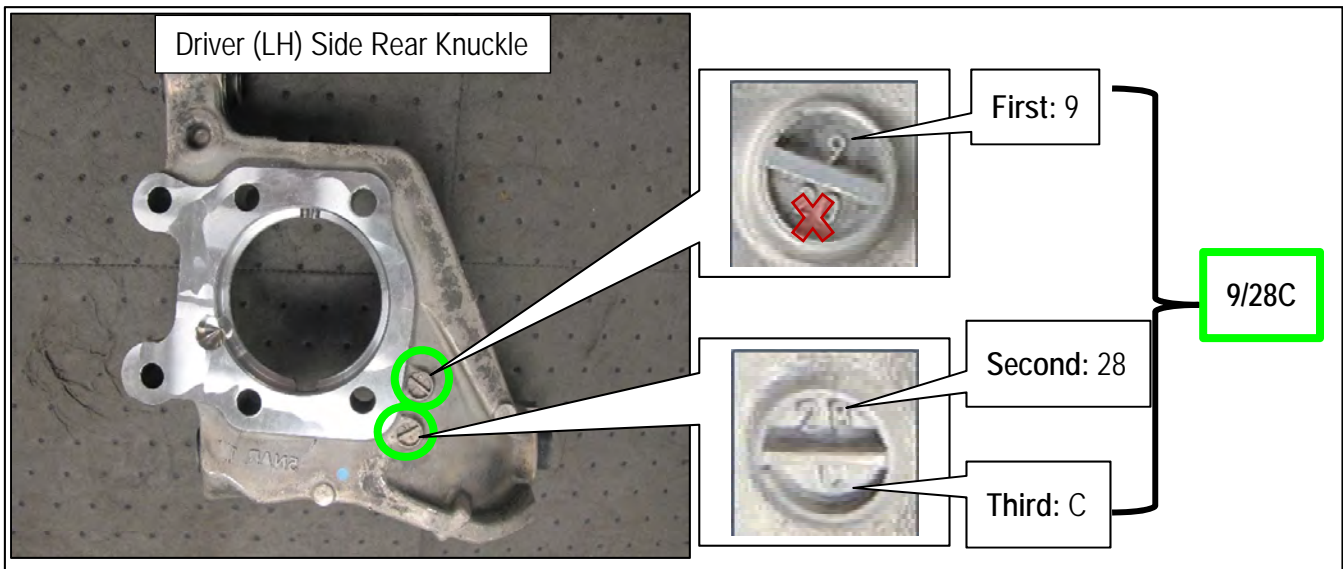
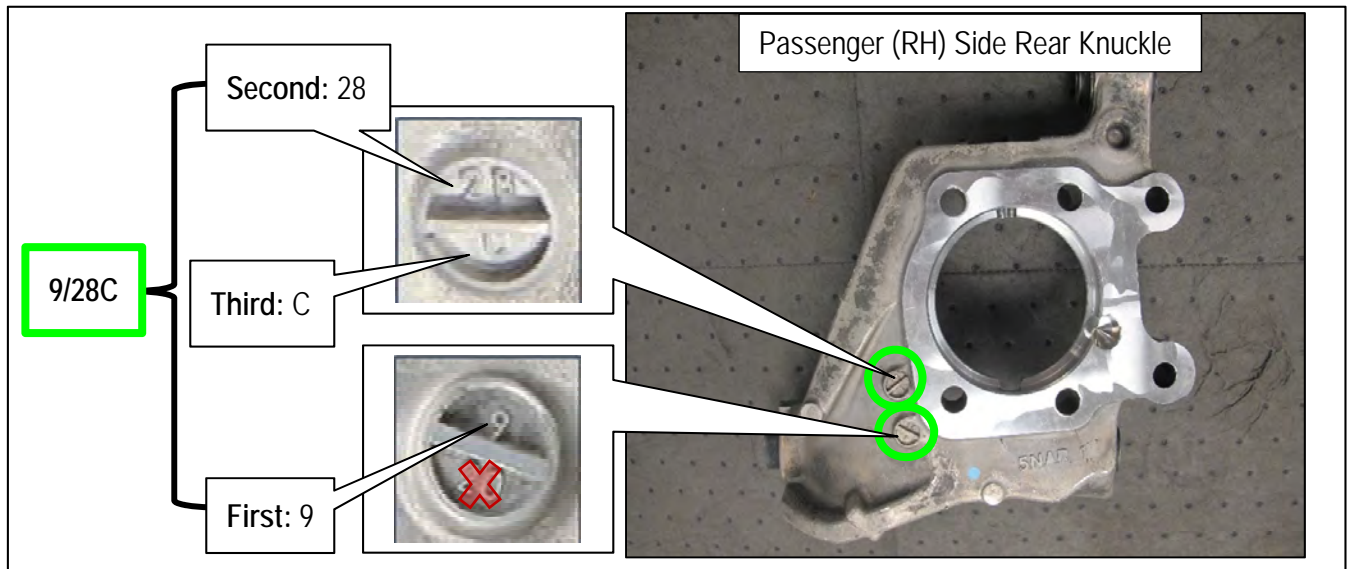

Figure 85
Figure 86
54. Locate the casting stamp dates on each suspension knuckle, where indicated in Figure 85 for the driver (LH) side and Figure 86 on page 29 for the passenger (RH) side.
**NOTE:** Orient the suspension knuckle, as shown in Figure 85 for the driver (LH) side and Figure 86 on page 29 for the passenger (RH) side.
- a. Write down the upper character of the casting stamp **furthest** from the bottom of the knuckle. This will be the first character of the casting stamp date. This is the number "9" of the example below in Figure 85.
- c. Write down the upper character followed by the lower character of the other casting stamp **closest** to the bottom of the knuckle. This is the number "28" followed by the letter "C" of the example below in Figure 85.
- a. Write down the upper character of the casting stamp closest to the bottom of the knuckle. This will be the first character of the casting stamp date. This is the number "9" of the example below in Figure 86.
- c. Write down the upper character followed by the lower character of the other casting stamp furthest from the bottom of the knuckle. This is the number "28" followed by the letter "C" of the example below in Figure 86.